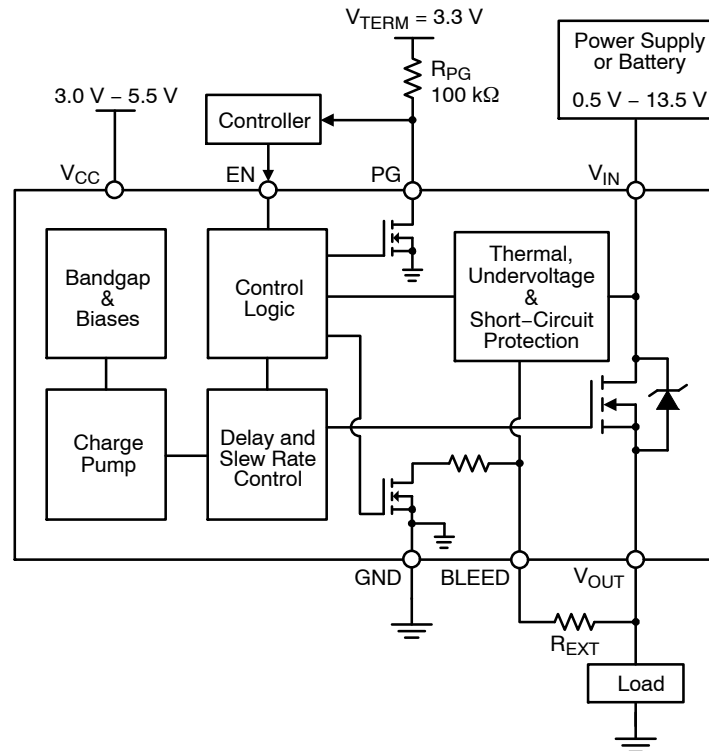
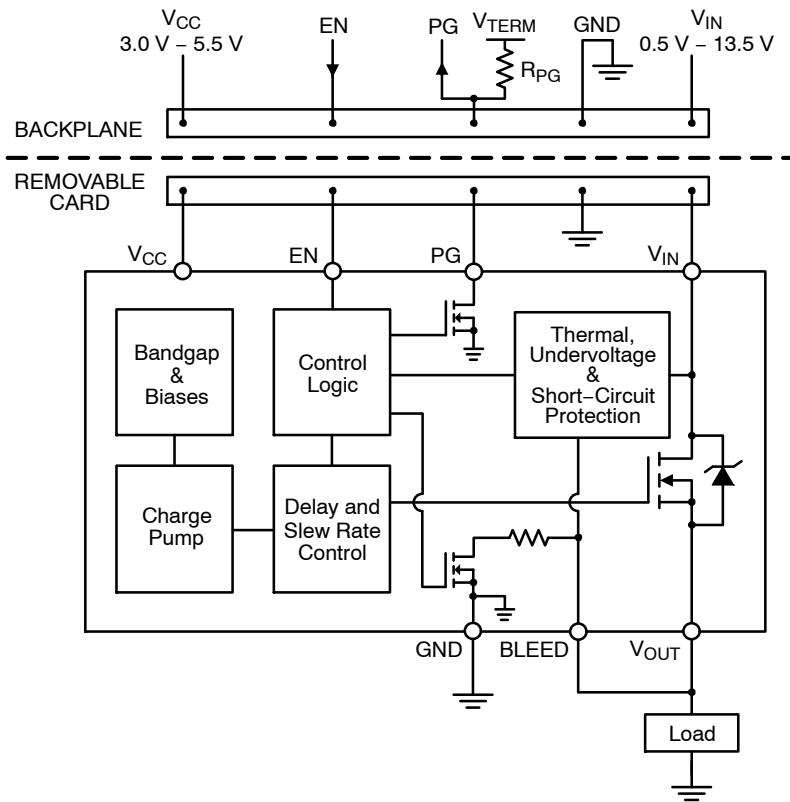

Figure 3. NCP45520 Typical Application Diagram – Load Switch
Figure 4. NCP45520 Typical Application Diagram - Hot Swap
It is required that the BLEED pin be connected to V_{OUT} either directly (as shown in Figures 4 and 7) or through an external resistor, R_{EXT} (as shown in Figures 3 and 6). R_{EXT} should not exceed 1 k Ω and can be used to increase the total bleed resistance.
The NCP45520 devices have a power good output (PG) that can be used to indicate when the gate of the MOSFET is fully charged. The PG pin is an active-high, open-drain output that requires an external pull up resistor, R_{PG} , greater than or equal to 1 k Ω to an external voltage source, V_{TERM} , that is compatible with input levels of all devices connected to this pin (as shown in Figures 3 and 4).
Once active, the circuitry monitors the difference in the voltage on the V_{IN} pin and the voltage on the BLEED pin. In order for the V_{OUT} voltage to be monitored through the BLEED pin, it is required that the BLEED pin be connected to V_{OUT} either directly (as shown in Figures 4 and 7) or through a resistor, R_{EXT} (as shown in Figures 3 and 6), which should not exceed 1 k Ω . With the BLEED pin connected to V_{OUT} , the short-circuit protection is able to monitor the voltage drop across the MOSFET.